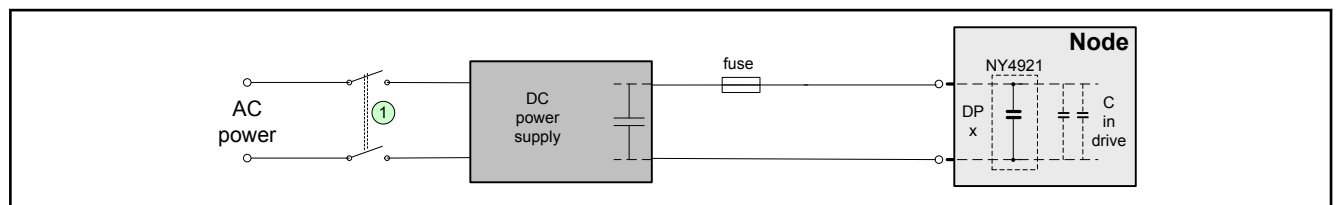

Fig. 11-4: Schematic of drive power supply to a node
The preferred method to switch on and off the drive power is by means of the mains switch as indicated by ① in fig. 11-4 "Schematic of drive power supply to a node" on page 131 to prevent destructive inrush currents.